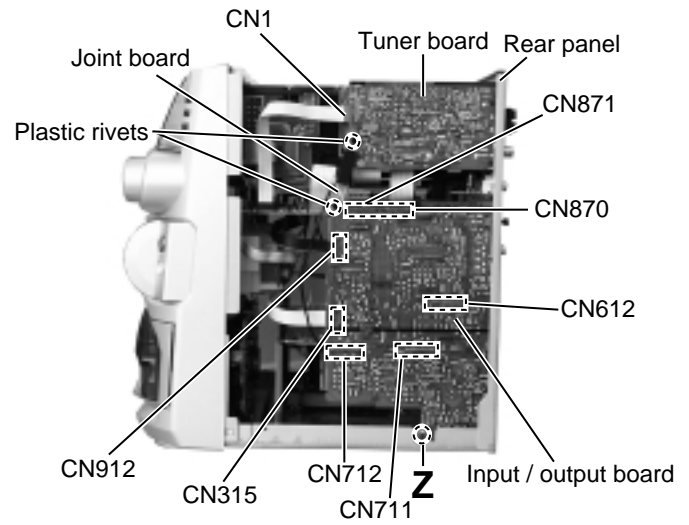

Fig.21
<Rear panel assembly>**■ Removing the tuner board****(See Fig.21 and 22)**
■ Removing the input / output board**(See Fig.21 and 22)**
1. Remove the input / output board (Refer to Fig.21 and 22).